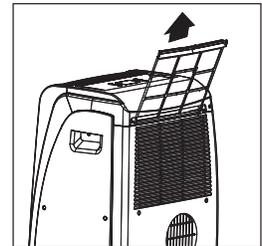

Fig. 29.
- The filters are housed in the intake grille (fig. 29).